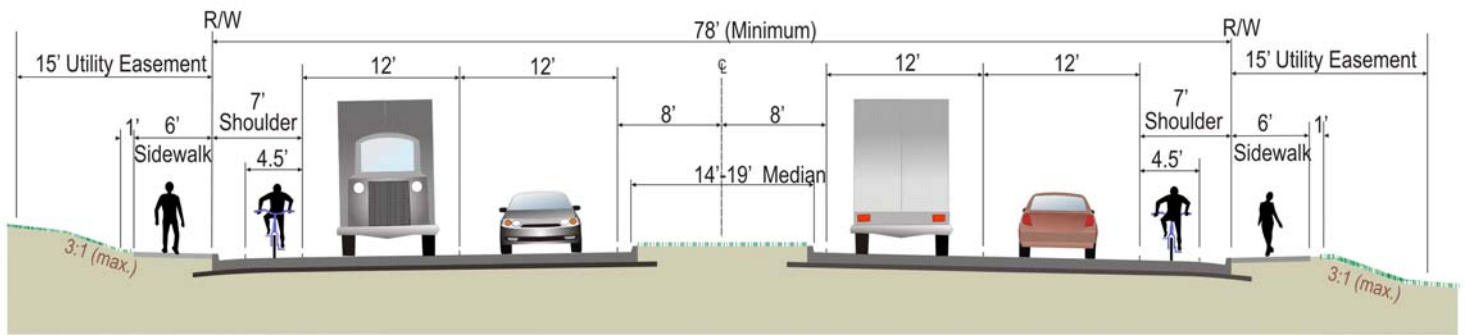

Figure 10 – MoDOT's Revised Route 763 Typical Section
- Designed 5-Lane Section with 78' ROW (See Figure 10)